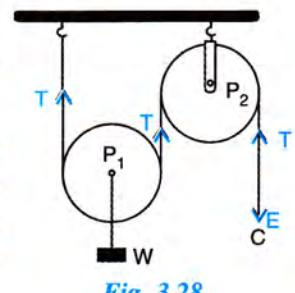

Fig. 3.28
2. The diagram in Fig. 3.28 shows the combination of two pulleys  $P_1$  and  $P_2$  used to lift up a load  $W$ .